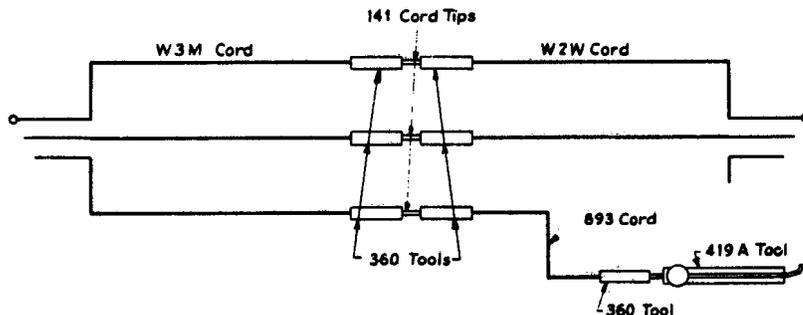

Fig. 1
2.14 One W3M Cord equipped with three No. 360 Tools at one end and a No. 310 (or No. 110) Plug at the other end (3W4A). One W2W Cord equipped with two No. 360 Tools at one end and a No. 310 (or No. 110) Plug at the other end (2W17A). One No. 893 Cord six feet long equipped with one No. 360 Tool at each end (1W13B). One No. 419A Tool. Three No. 141 Cord Tips. Make connections as shown in Fig. 1.
4.31 Insert the No. 310 (or No. 110) plug of the W2W cord, connected as shown in Fig. 1, into the test jack of the line finder to be tested. Connect the No. 419A tool of the No. 893 cord, connected as shown in Fig. 1 to the commutator segment of some level other than the tenth level of the line finder to be tested.
4.32 Insert the No. 310 (or No. 110) plug of the W3M cord, connected as shown in Fig. 1, into the LF jack of the test set. The line finder should step vertically to the level of the commutator on which the No. 419A tool is connected, cut in and rotate to the eleventh rotary step and then restore to normal.